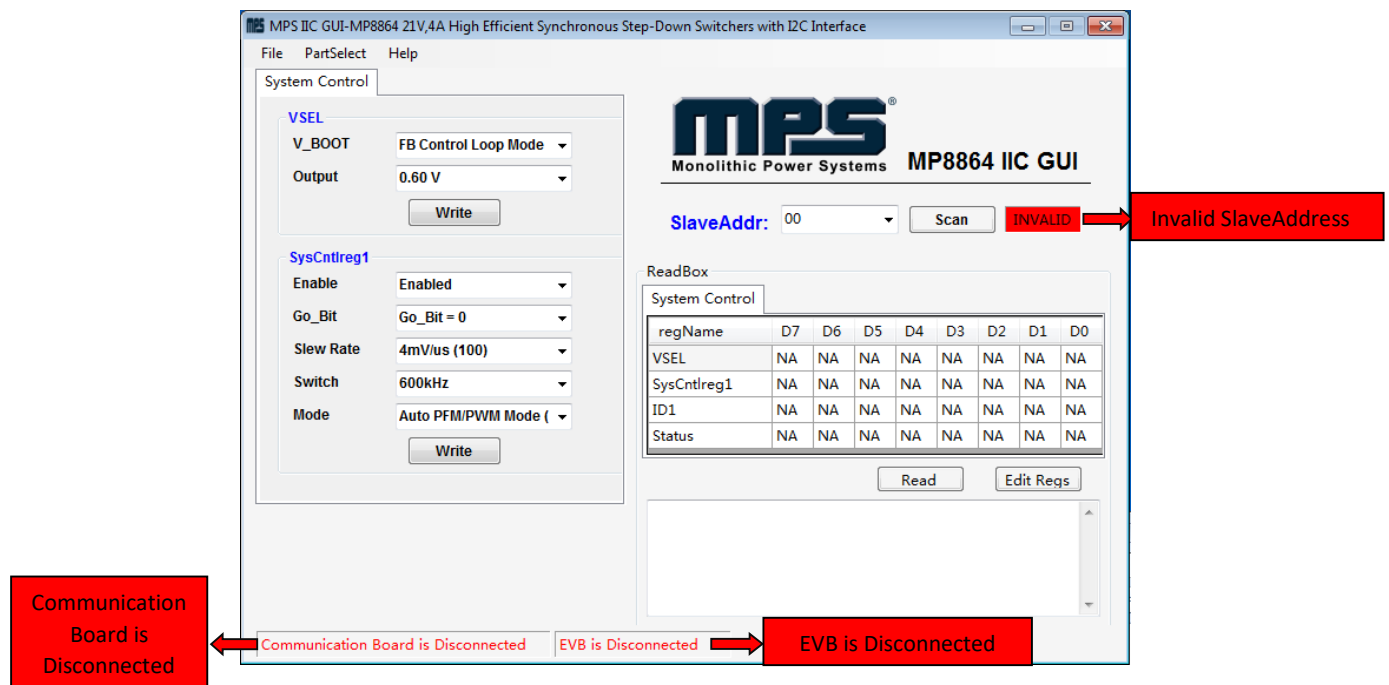

Figure 8: Warning Indicates Unsuccessful Connection
- If connection is not successful, a warning will appear at the bottom. There are two warnings a user can expect (see Figure 8). Each warning means an invalid connection.